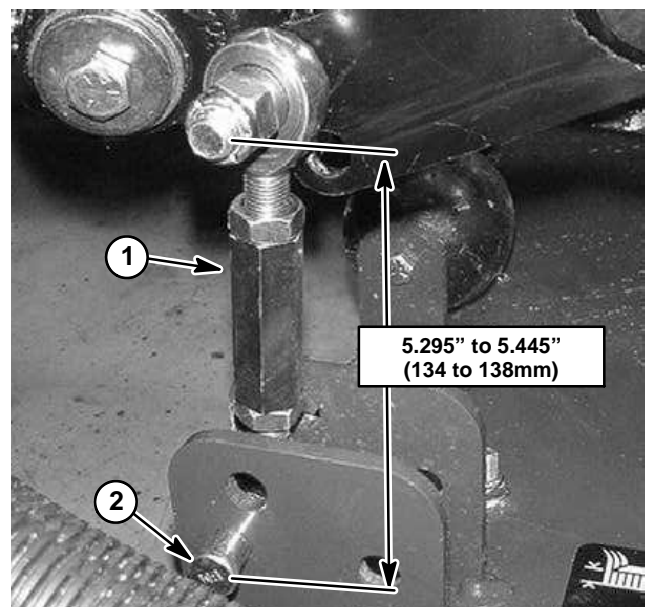

Figure 8
**IMPORTANT: Do not change the length of the damper link (Fig. 8).**
3. Remove hairpin and clevis pin that secure the damper link to the rear of the cutting deck (Fig. 8).
5. Install clevis pin and hairpin that secure the damper link to the rear of the cutting deck (Fig. 8).